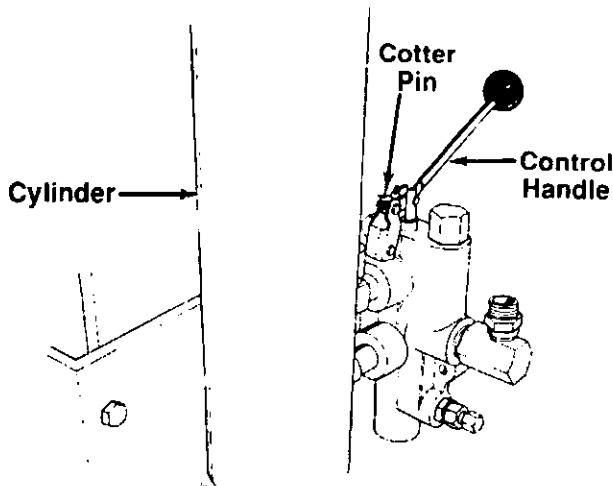

FIGURE 8.
2. The bottom of the control handle is already attached to the valve with a cotter pin and clevis pin. Remove the second cotter pin and clevis pin which is attached to the valve only. Place the handle in position, and secure using the second cotter pin and clevis pin. See figure 8.